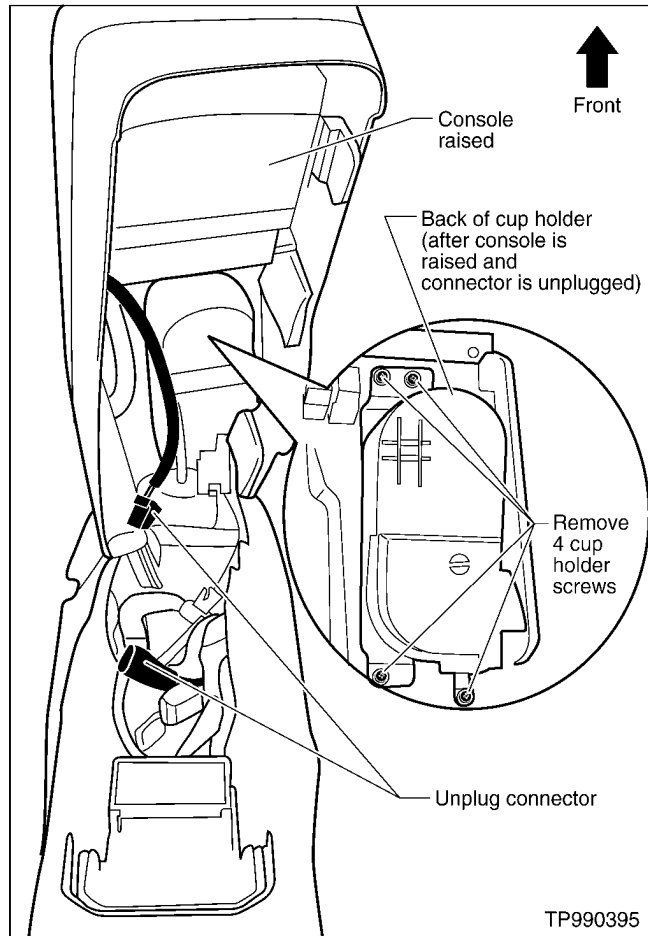

Figure 2
A. Raise the center console (see Figure 2). See step 1 above for information about Center Console removal.
- B. Unplug the console connector (see Figure 2).
- C. Remove the four cup holder screws (see Figure 2 for cup holder screw locations).